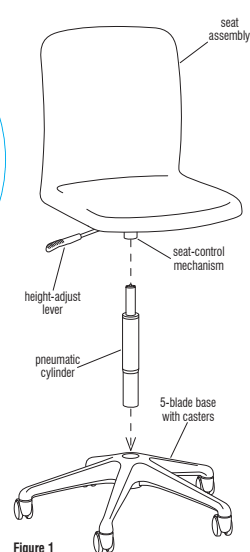

Figure 1
1. Carefully unpack all contents from packaging, then locate and identify the parts shown in Figure 1.
2. Turn the 5-blade base with casters to the upright position on the floor. Orient the pneumatic cylinder as shown placing the larger end of the cylinder into the hole in the center of the base as illustrated (Figure 1).
3. Carefully position the seat assembly over the pneumatic cylinder, aligning the hole in the underside of the seat-control mechanism with the top, smaller end of the pneumatic cylinder. Press the seat assembly onto the pneumatic cylinder, then sit on the seat to completely drive the components together. While sitting, actuate the height-adjust lever to move seat to its lowest height position, then press lever and release seat pressure to adjust up to comfortable sitting height. Failure to do so could result in personal injury (Figure 1).